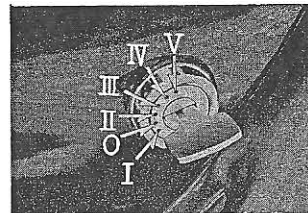

Fig. 5
3. Insert the key in the switch and turn to "I". (fig. 5)